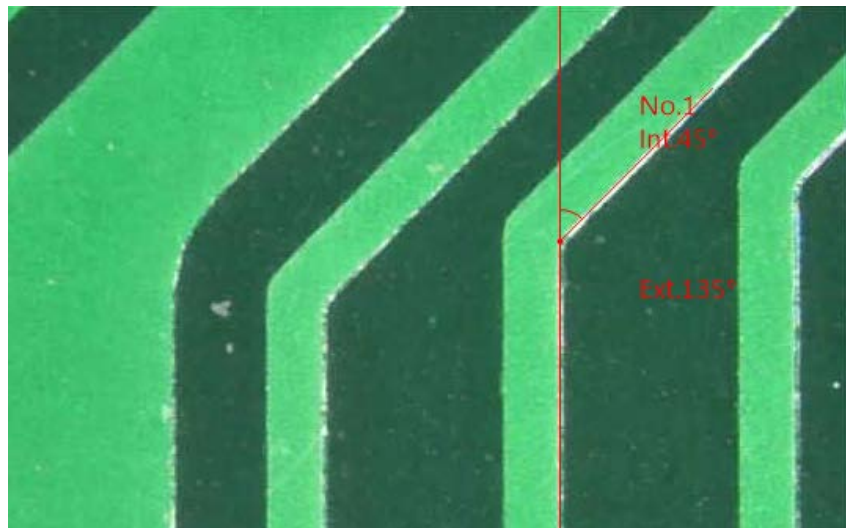

Fig. 5-24 Assisted measurement of Vertical Angle
(13) Vertical Angle : Measure any Vertical Angle by a vertical line that can apply  tool. Draw a vertical line, auto pop up the other oblique line to the vertical line, then auto measure the inner Angle/ external Angle as Fig. 5-24 shown.